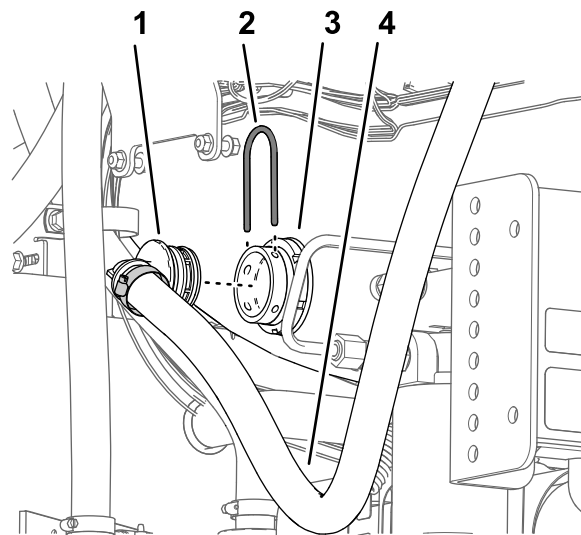

Figure 61
2. Remove the large retainer that secures the 90° barbed fitting at the lower end of the bypass hose to the bulkhead fitting of the sprayer tank (Figure 61).